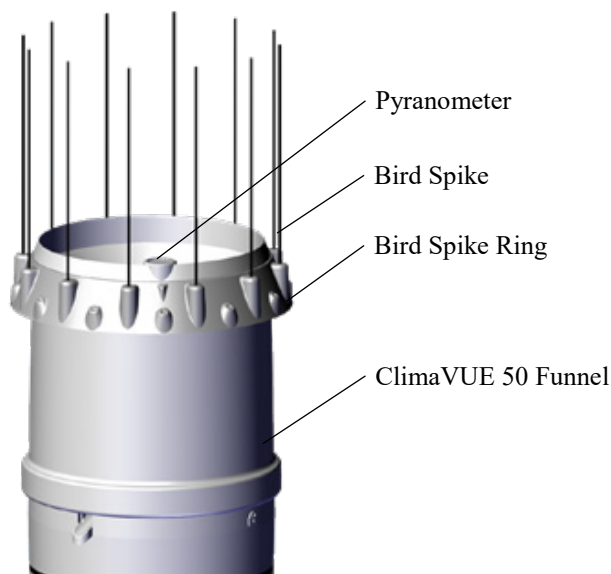

FIGURE 7-7. Bird-spike kit mounted properly
6. Position the ring on top of the ClimaVUE 50 with the pyranometer between two spikes (FIGURE 7-7); this will limit spike shadows on the sensor.
7. Press finished bird deterrent onto the ClimaVUE 50 funnel to at least the depth shown in FIGURE 7-7.